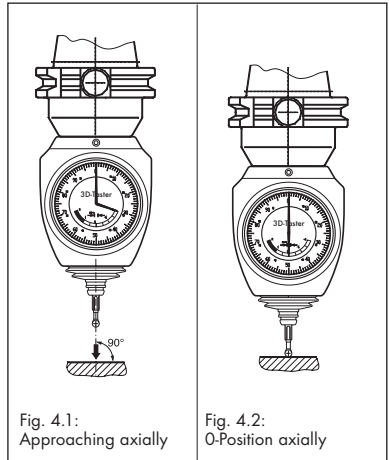

Fig. 4.1:
- Approach the first surface until the gauge shows 0 (as radial, figs. 4.1 and 4.2).